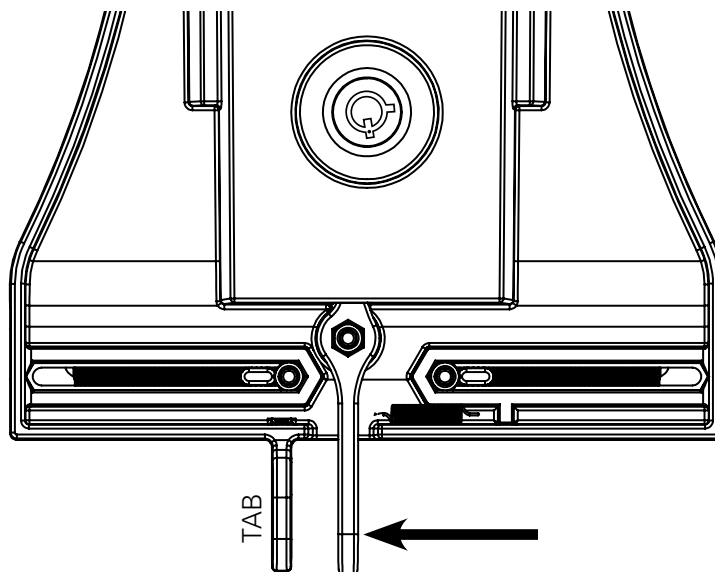

Figure 2
2. Pull the release lever towards the bottom tab to release the center slide into the up or open position. (*figure 2*)